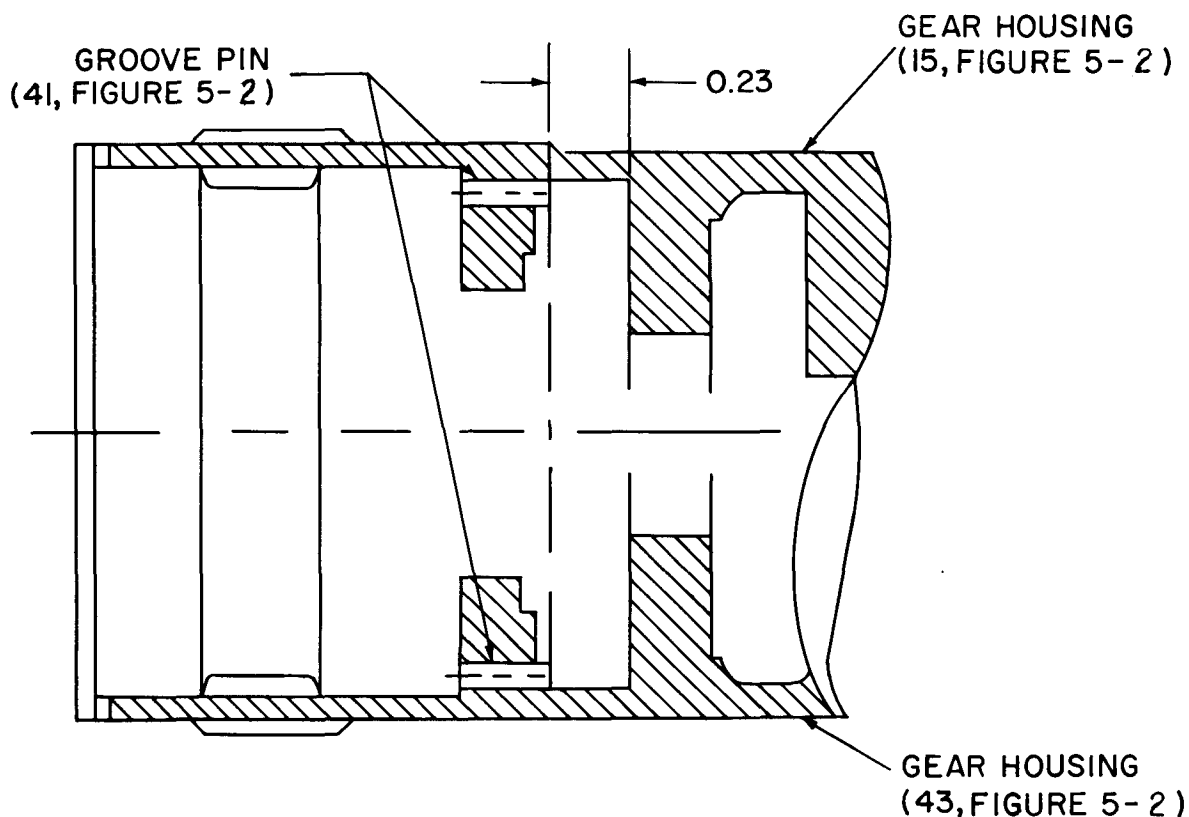

Figure 5-6. Pin Pressing Diagram, Part No. R460M15-11.
b. If grooved pins (41) were removed, press pins in appropriate holes of gear housings (15 and 43) to dimension shown in figure 5-6. If shouldered stud (42) was removed from gear housing (43), use a riveting fixture and electro-stake machine to rivet stud in place.